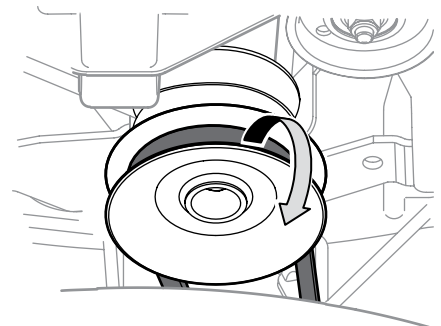

Figure 4-6
4. Remove the belt from around the tractor's PTO pulley. See Figure 4-6.
- Remove the deck belt from around the riding mower's PTO drive pulley as shown in Figure 4-6. Simply roll one side of the belt OFF of the pulley and then work it OFF the pulley by continuing around the pulley until the belt is OFF of the pulley.
- Feed the deck belt through the belt keeper rod and work it around and onto the PTO drive pulley as shown in Figure 4-6.